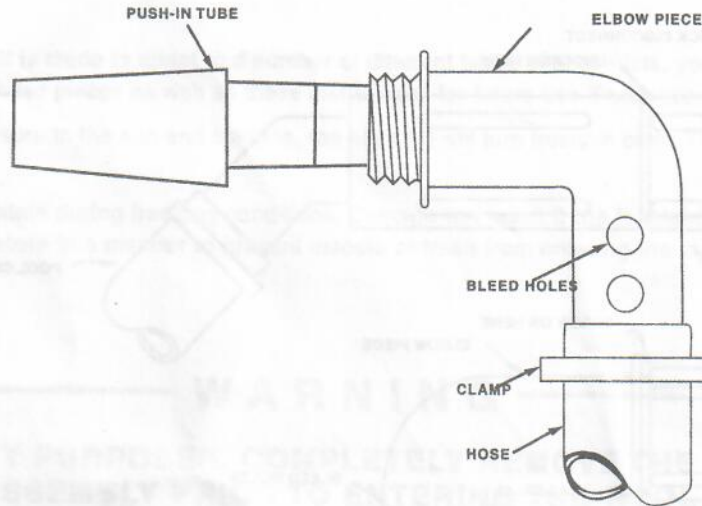

FIGURE 6
2. Refer to Figure 6. Push the small end of the Push-in Tube (13), into the threaded end of the Elbow Piece (7) until it is secure. This is your inlet adapter.
3. Refer to Figure 1. Uncoil the hose (4) and remove all twists. Using clamps (16), clamp one end of the hose to the back side of the fountainhead (1 or 3) and the other end to the inlet adapter from step 2. Cover one set of bleed holes with the hose (Fig. 6). To tighten clamp, grasp "tabs" between thumb and forefinger and squeeze. Tighten securely with a pair of pliers. To open the clamp, grip one "tab" of the clamp with pliers and twist loose.
4. Using the tie wrap (15), LOOSELY attach the anchor (5) to the hose (4). The anchor (5) should be attached to the hose (4) at a point as deep as the water plus approximately two feet. You will have to estimate what the water depth is where you want the fountain and add two feet. **CAUTION: DO NOT CONSTRICT THE HOSE BY TIGHTENING THE TIE WRAP (15) TOO TIGHT.**
6. Place the fountain assembly into the pool. Position the fountain in the desired location being careful not to crimp the hose (4)
Height adjustment is achieved by covering more or less of the bleed holes (Fig. 6) on your Elbow Piece (7) with the hose (4). The more holes covered, the higher the fountain and vice versa.
Height adjustment is achieved by covering more or less of the bleed holes (Fig. 6) on your Elbow Piece (7) with the hose (4). The more holes covered, the higher the fountain and vice versa. If your fountain is still not as high as desired, use the threaded plug (12) to plug one of the other inlets.